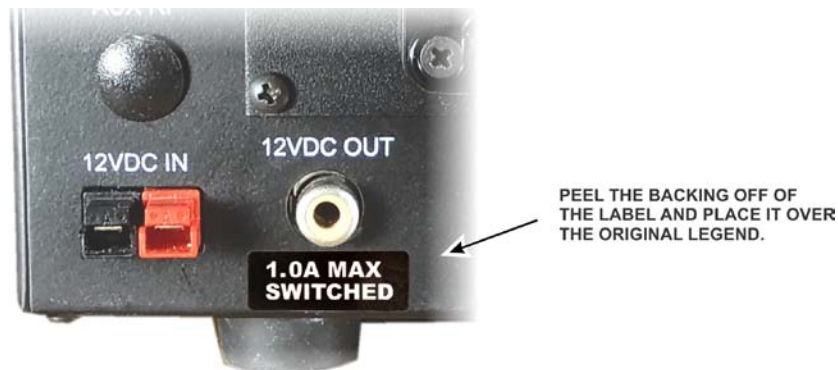

Figure 13. Installing the New Label.
- Peel the backing off of the self-adhesive label and place it over the original 0.5A legend below the 12VDC output connector in the K3 rear panel as shown in Figure 13..